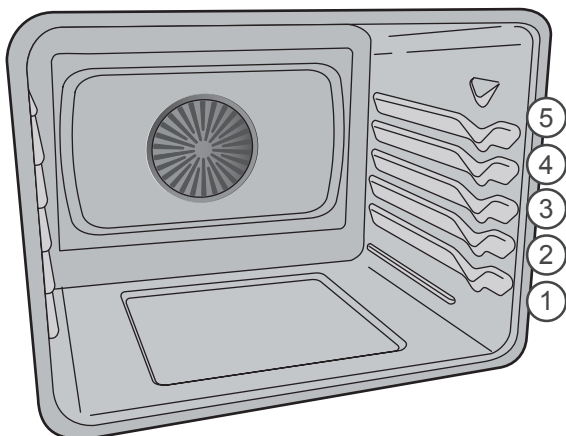

Figure 3: Rack Positions
- For baking cakes use the following rack positions and place bakeware as shown in Figure 3.